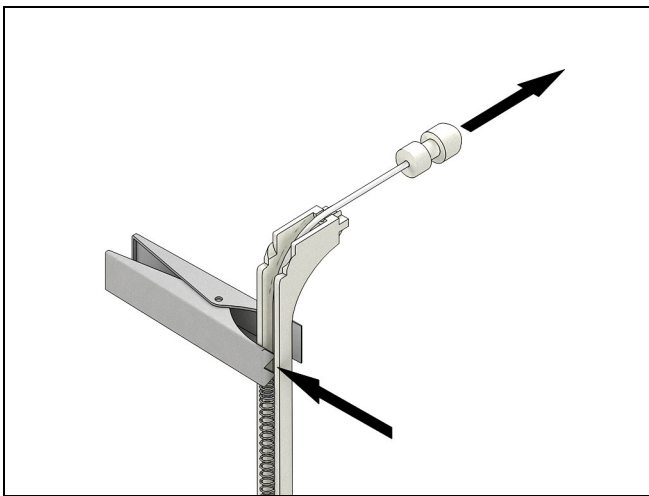

Figure 8 Firmly hold sash jig on corner of sash.
- Be sure the tether spring does not extend past the point shown in Figure 8.